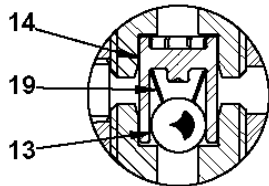

**Figure 6 - Hydraulic Section Detail**
**REPAIR PARTS LIST FOR FIGURE 6**